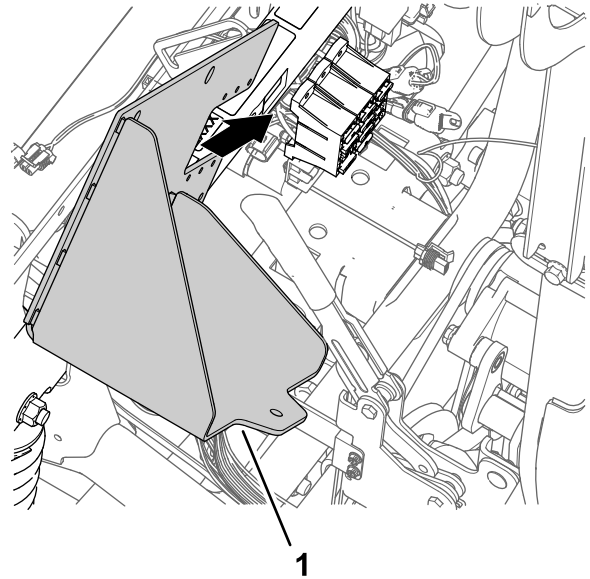

Figure 173
1. Align the new battery bracket to the shock-support tube of the machine and the fuse blocks (Figure 173).